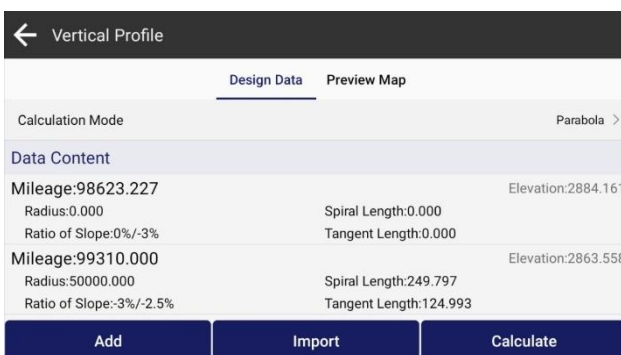

Figure 4.9-5
2. Vertical profile: as shown in Figure 4.9-5. The vertical profile is the elevation fluctuation of the road centerline at each station. It is the design height of the centerline of the line, which requires the input of the elevation to each station of the line elevation point and the arc radius to the elevation point. The software calculates the elevation values of the line at each station point based on design elements.